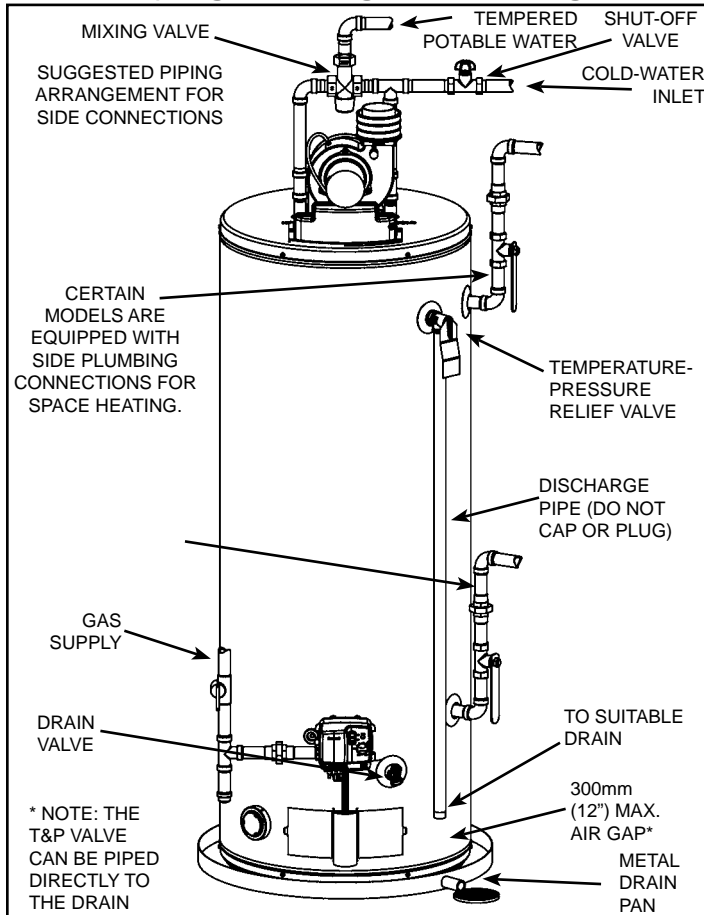
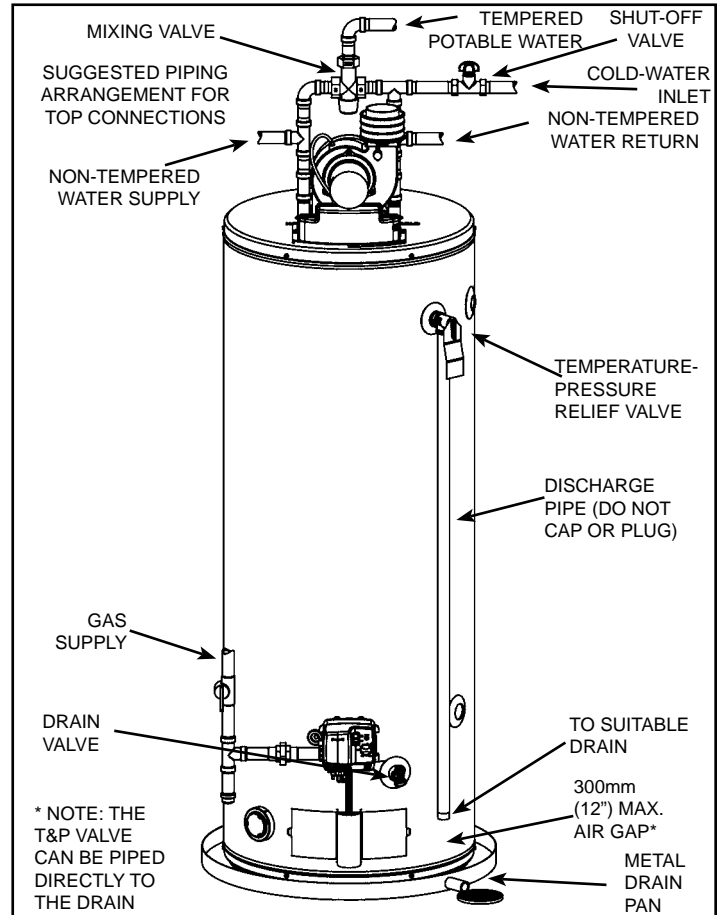

Figure 11
Figure 12
Models equipped with Combo Heating capabilities are shipped with the two side plumbing taps **PLUGGED** (item 18 and item 20 in Figure 4 and see also Figure 11). If the heater is to be operated using the side taps for combo heating, these taps **must be opened** by removing the two pipe plugs .
Some people are more likely to be permanently injured by hot water than others. These include the elderly, children, the infirm and the physically/mentally disabled. Table 2 shows the approximate time-to-burn relationship for normal adult skin. Provincial (Ontario) plumbing code requirements limit the temperatures of certain fixtures in the home. Local codes may have additional requirements. In addition to these requirements, if anyone using hot water in your home fits into one of these groups, then you must take special precautions. In addition to using the lowest possible temperature setting that satisfies your hot water needs, a means such as a Mixing Valve, should be used at the hot water taps used by these people or at the water heater. Mixing valves are available at plumbing supply or hardware stores. Consult Your Reliance installer or Service Agency. Follow mixing valve manufacturer's instructions for installation of the valves (see Figure 11 & Figure 12). Before changing the factory setting on the thermostat, read the "Temperature Regulation" section in this manual.